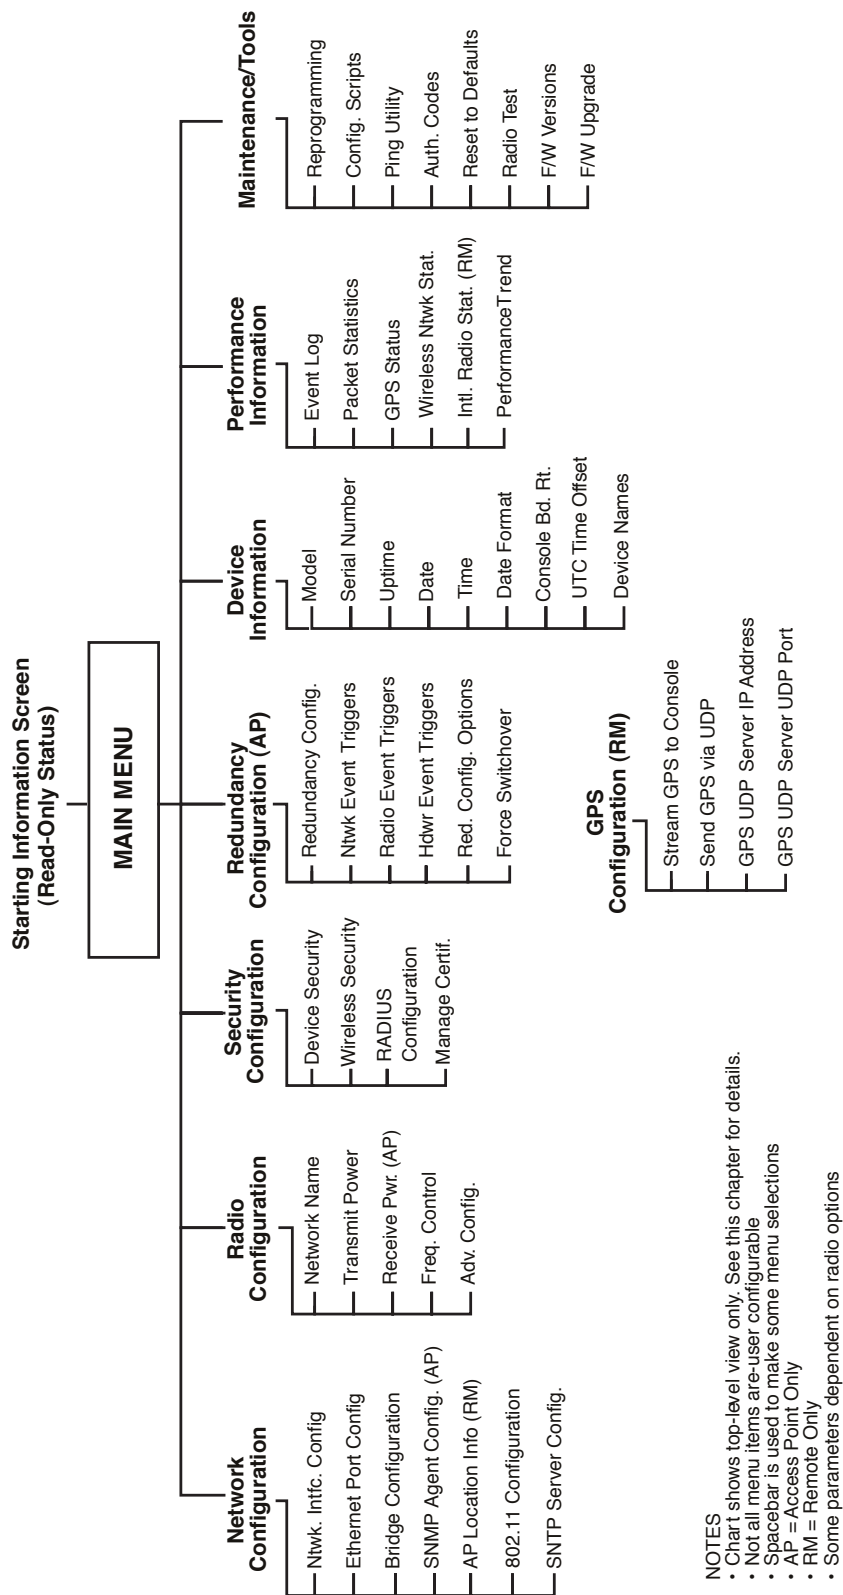

Figure 3-1. Embedded Management System—Top-Level Flowchart
Each of these sections has a focus that is reflected in its heading. The section you are now reading provides information on connecting to the Management System, how to navigate through it, how it is structured, and how to perform top-level configuration tasks. Figure 3-1 on Page 34 shows a top-level view of the Management System (MS).